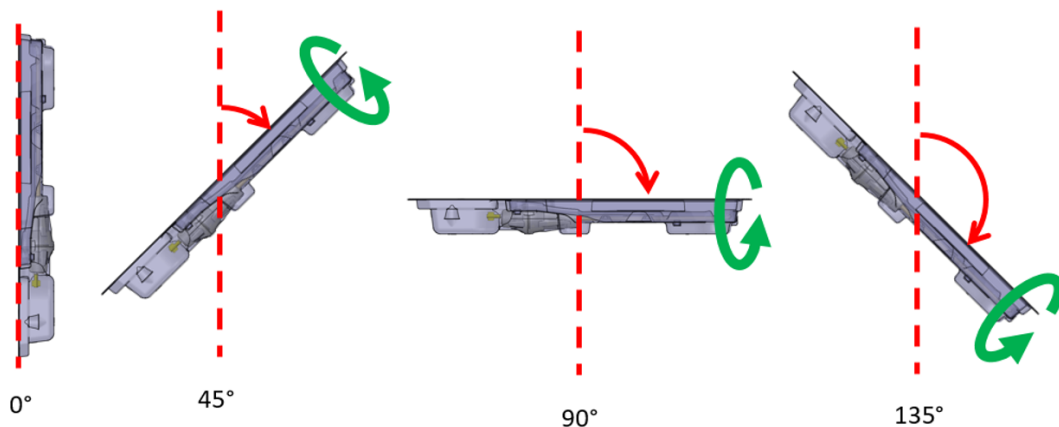

Figure 9: Recommended procedure for purging air from ultrasound applicator
- b. While the purging operation is on, hold the UA in its package—be careful not to touch the UA handle to keep the UA sterile. Tip the package upwards in the 0° position, then tilt to approximately 45°, then 90°, and 135°. At each angle, slowly rotate the package approximately 360° (Figure 9).